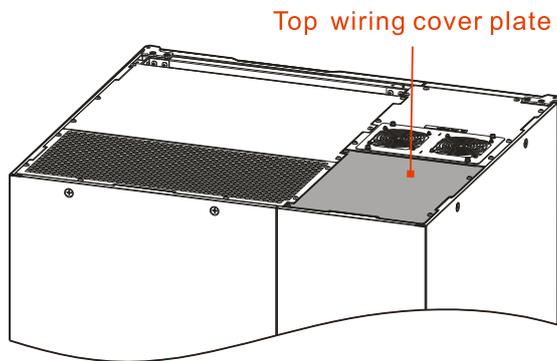

Figure3-18 Top wiring cover plate position of PS300KVA, PS400KVA
- Step 2 Unscrew the fasten bolts of top wiring cover plate (as shown in Figure3-18) by screwdriver and take them down.